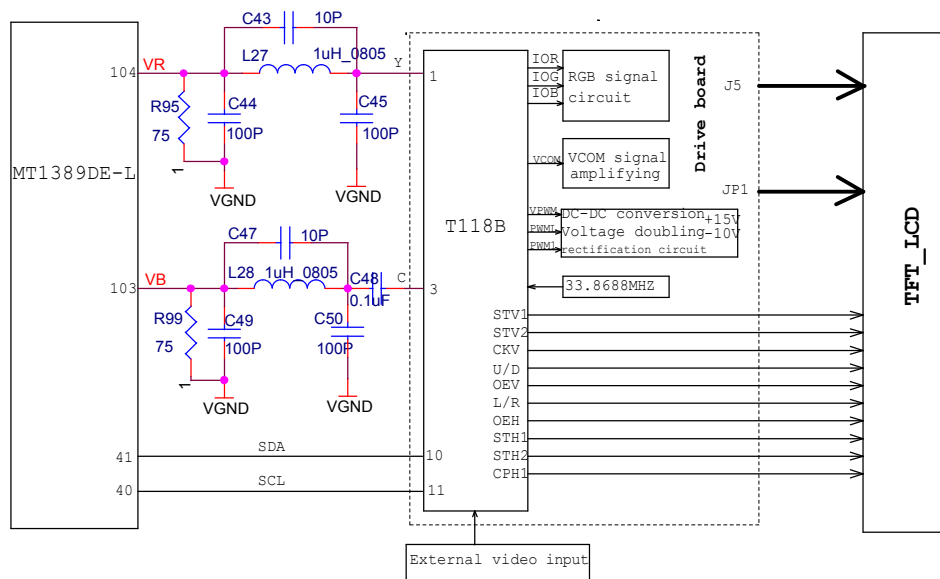

Figure 3.2.8.1 Video coding and LCD – TFT drive circuit block diagram
1. Video coding and LCD – TFT drive circuit block diagram is shown as in the following figure 3.2.8.1: